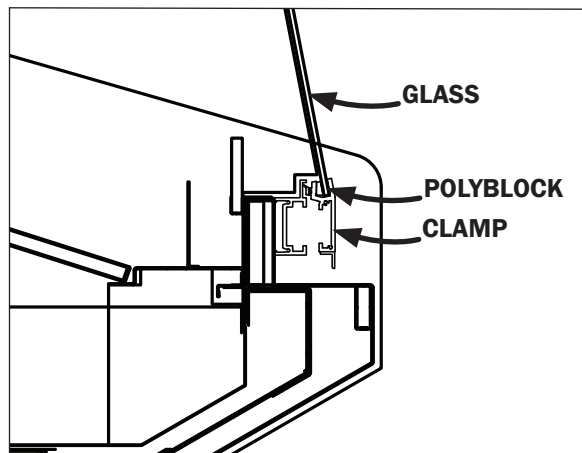

Fig. 5 Glass, polyblock and clamp
1. Lift the glass to its highest position as shown in (Fig. 5).